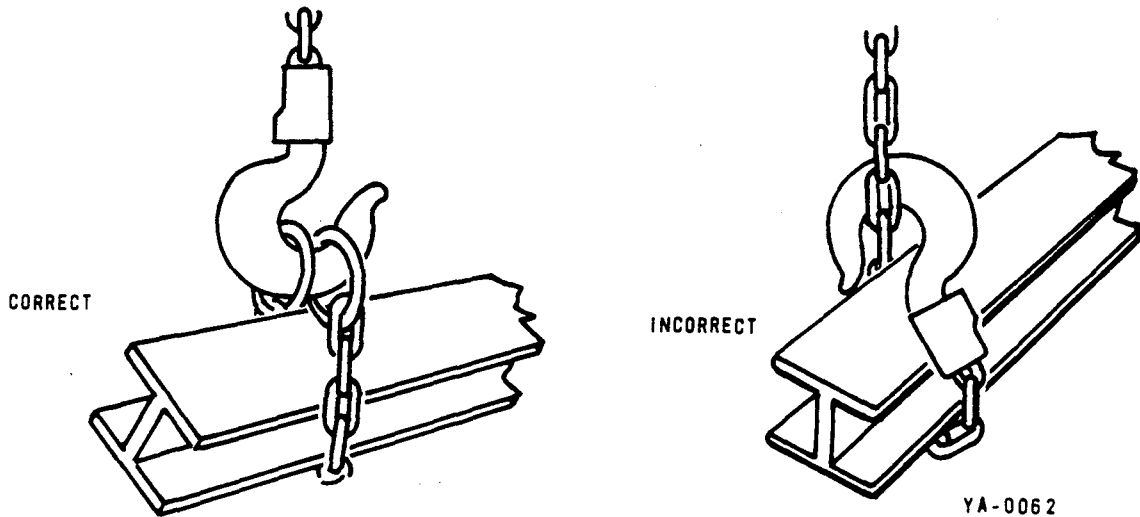

Figure 2. Using the hoisting chain as a sling will result in damage to chain and bottom block.
- (d) DO NOT use the hoisting chain as a substitute for slings. This damages the chain creating a possible failure. See Figure 2 page 6.